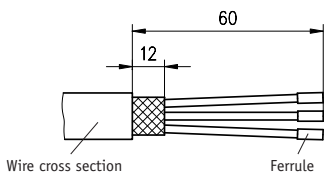

Fig. 7: Cable preparation
- Prepare wire accord. to fig. 7